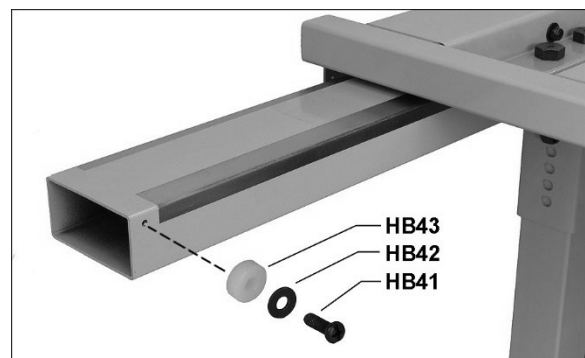

Figure 7-11
2. Mount a table stop to each end of outer rail (Figure 7-11).